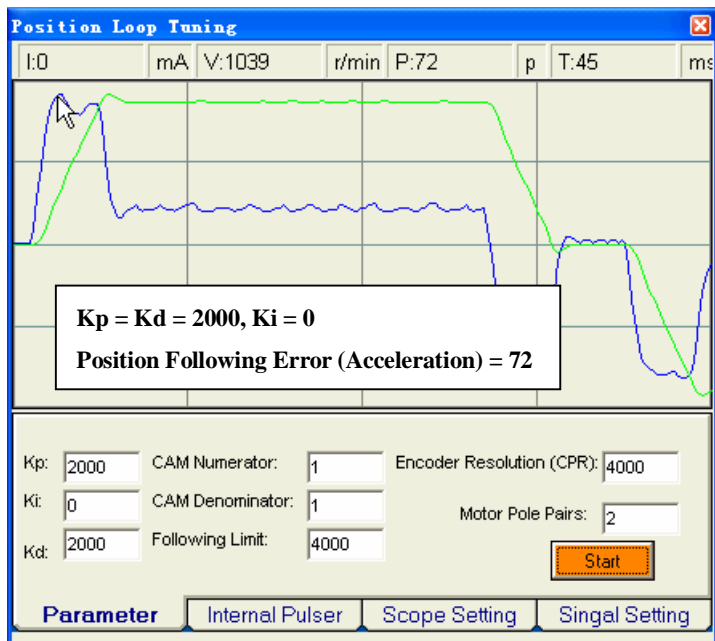

Figure 3-11: Increase Kp to 2000 to maximize the system stiffness
**Step 2:** Increase  $K_p$  and  $K_d$  synchronously until motor noise/vibration begins. Then back off. To activate the noise/vibration, sometimes you need to give a disturbance to the load by either starting the self-motion test or trying to push/pull the load. In this example, we give both  $K_p$  and  $K_d$  2000, 3000, 4000, 5000 and 6000. We find that the noise/vibration begins at  $K_p=K_d=6000$ . So we stop increasing  $K_p$  and  $K_d$ . The motor shaft or load is stiff enough at standstill when we back off  $K_p$  to 5000 and the motor noise/vibration can be accepted. And we can see the position following error is reduced when the  $K_p$  and  $K_d$  increase. See figure 3-11, 12, 13 and 14.